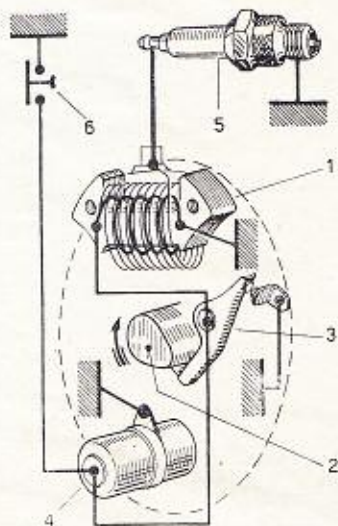

Fig. 6. Ignition diagram.
**Ignition** by a high tension coil in the fly-wheel magneto (see Fig. 6).